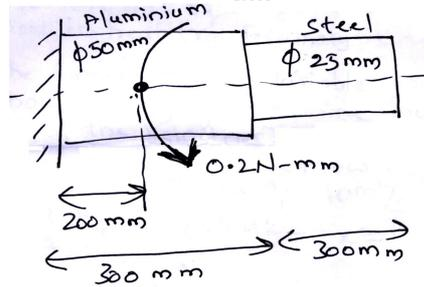

Fig.Q6(b) (10 Marks)
b. For the composite stepped shaft as shown in the Fig.Q6(b). Determine the shear stresses in the aluminium and steel shafts. Take $G_{\text{steel}} = 87 \text{ GPa}$ and $G_{\text{aluminium}} = 28 \text{ GPa}$.